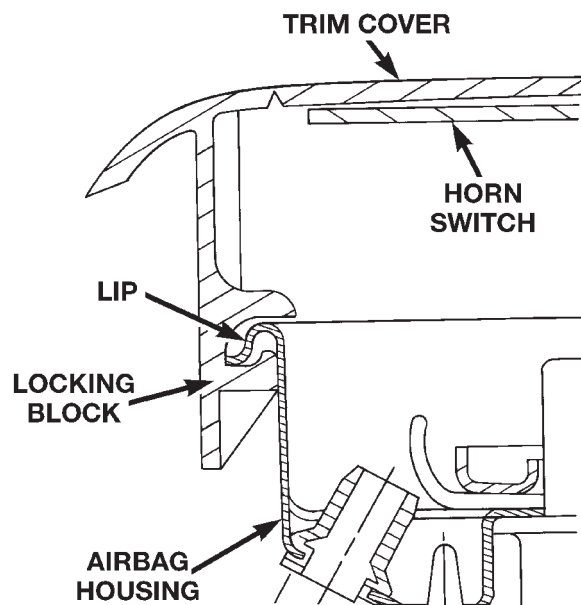

Fig. 12 Airbag Trim Cover Locking Blocks Installed
(8) When installing the trim cover and horn switch, be certain that the locking blocks are fully engaged on the lip of the airbag housing (Fig. 12).